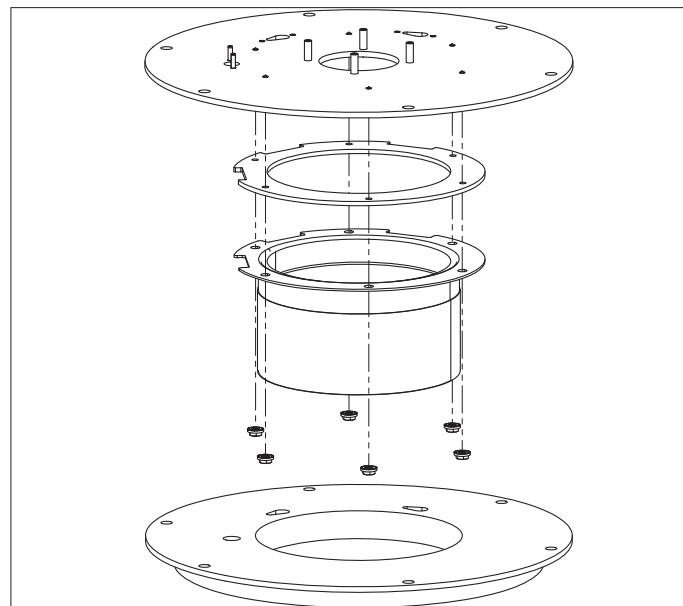

Figure 85 - Disassembled Burner Assembly
2. Reassemble the burner assembly. Ensure the components are installed as described in Figure 85.